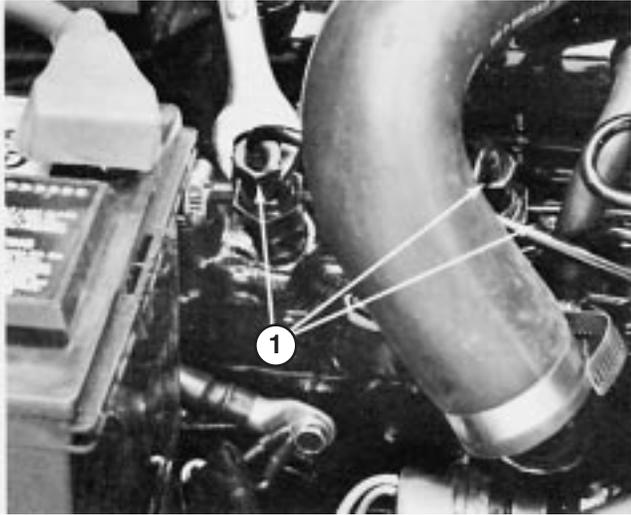

Figure 40
1. Loosen the pipe connection to the No. 1 nozzle and holder assembly (Fig. 40).